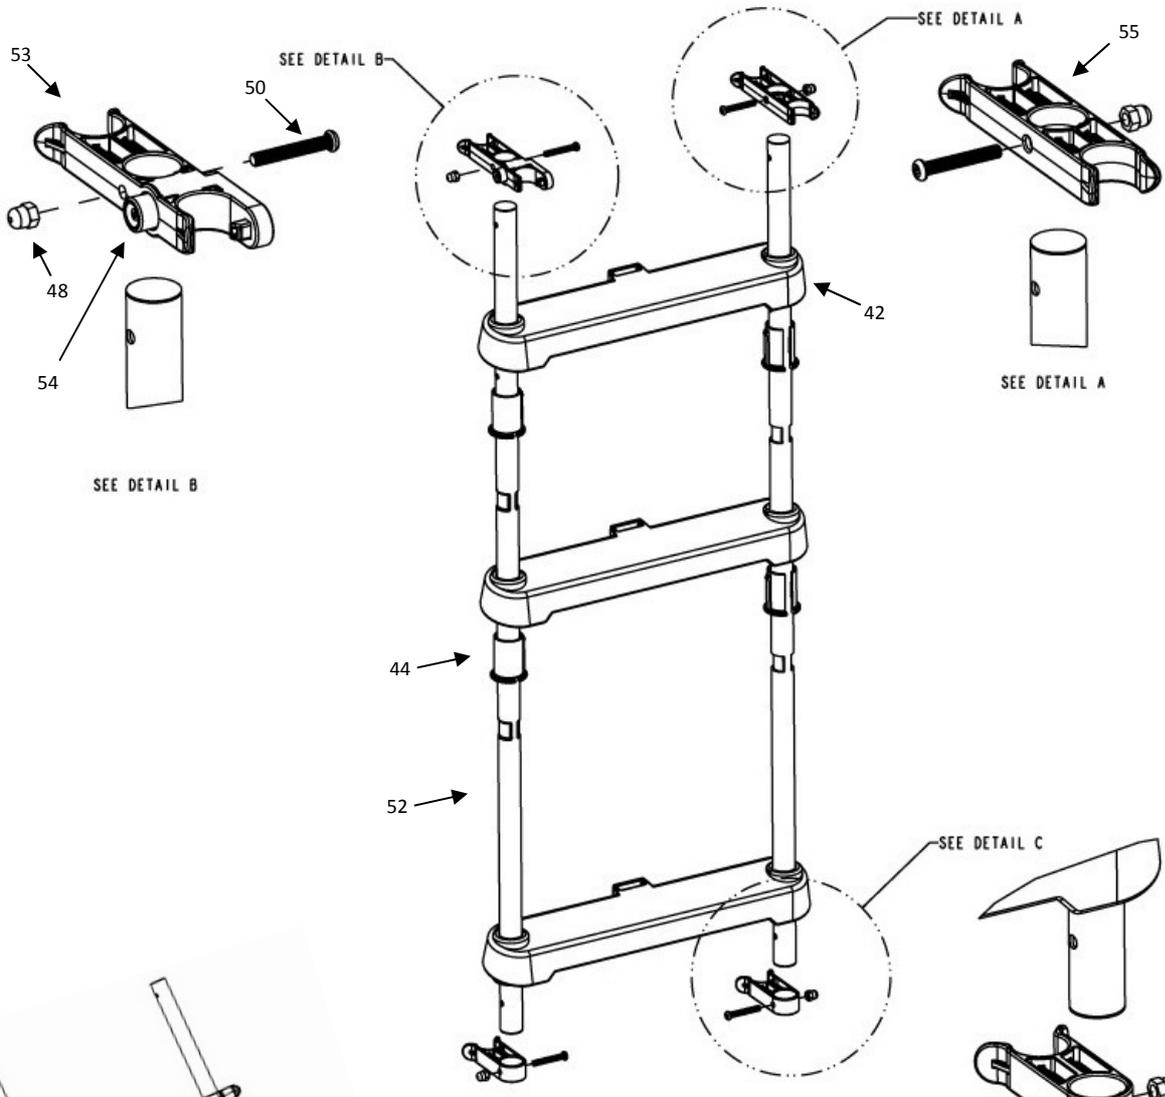

Fig. 4
5. To prepare the **Swivel Ladder Leg Ass'y** (see Fig. 4), start with one Straight Ladder Leg (52). Carefully pry open one Ladder Step Clip (44) from the side, just enough to get over the top section of the Straight Ladder Leg (52), and slide it from the top of the leg down to the lowest indented section as shown in the Figure 4. The ridge on the ladder clip should be on the inside of the leg as shown in the Figure 4. Repeat the same process to make another Straight Ladder Leg section.
7. Place the Swivel Ladder Clamp with Button (53) at the topmost step of the Straight Ladder Leg as shown in the Figure 4. The button should be installed facing outwards and the lock should be pointing to the front. The Swivel Ladder Clamp (55) is installed on the other side of the Straight Ladder Leg as shown in the Figure 4. The small clamp should be pointing to the front.
9. Place the Ladder Bottom Clips (61) at the bottom of the Straight Ladder Leg as shown in the Figure 4. The Machine Screws (50) should be installed from the inside of the Straight Ladder Leg (52). Thread the Cap Nut (48) on until the Ladder Bottom Clips tighten up against the Straight Ladder Leg. (See Fig. 4)